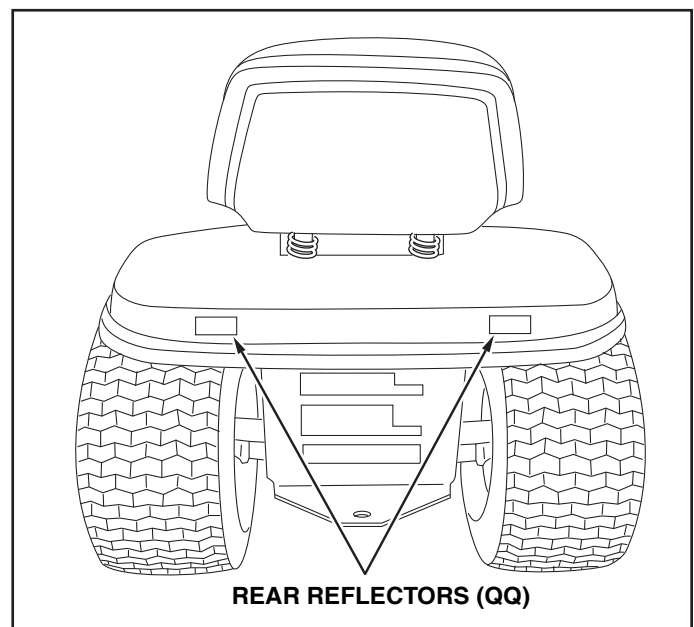

FIGURE 63
STEP 65: (SEE FIGURE 63)
- If your tractor is not equipped with rear reflectors, assemble the supplied rear reflectors (QQ) to the rear fender. Place the reflectors as close to the bottom of the fender and as far apart as the shape of the fender will allow.